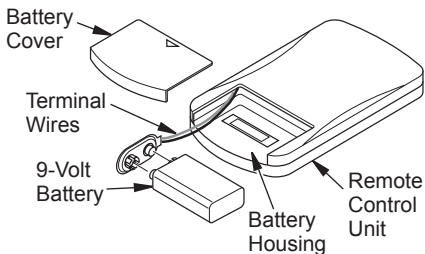

Figure 17 - Installing Battery in Hand-Held Control Unit (HRC100 Series)
- Attach terminal wires to a 9-volt alkaline battery (not included). Place battery into battery housing (see Figure 17).